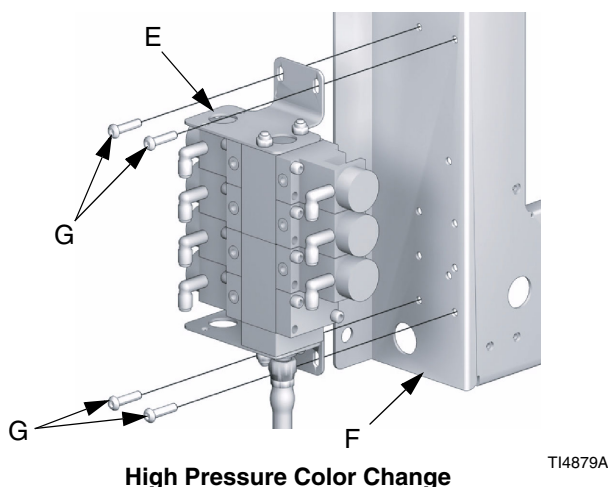
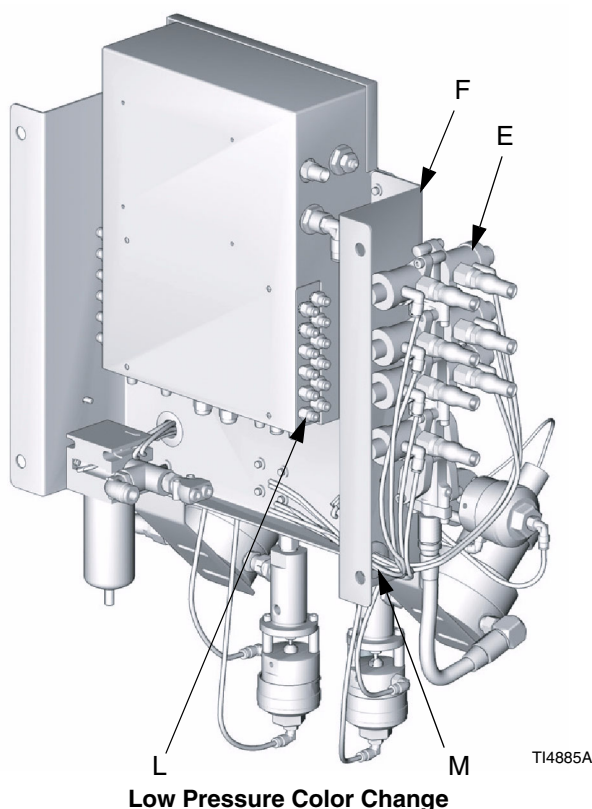

FIG. 3
FIG. 4
6. Using screws (G) included with kit and existing screw holes, mount color change assembly (E) to fluid panel wall (F). FIG. 3 or FIG. 4.
4. Connect air lines between color change valves (E) and solenoid valve ports (L), routing them through port (M). FIG. 4. Refer to the **Pneumatic Diagram**, page 6 and the pneumatic label inside the fluid panel.